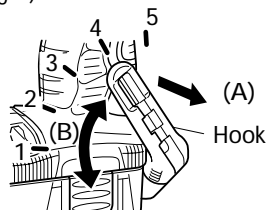

Fig. 5
- (1) Operating the hook
- (a) Pull out the hook toward you in the direction of arrow (A) and turn in the direction of arrow (B) (Fig. 5).